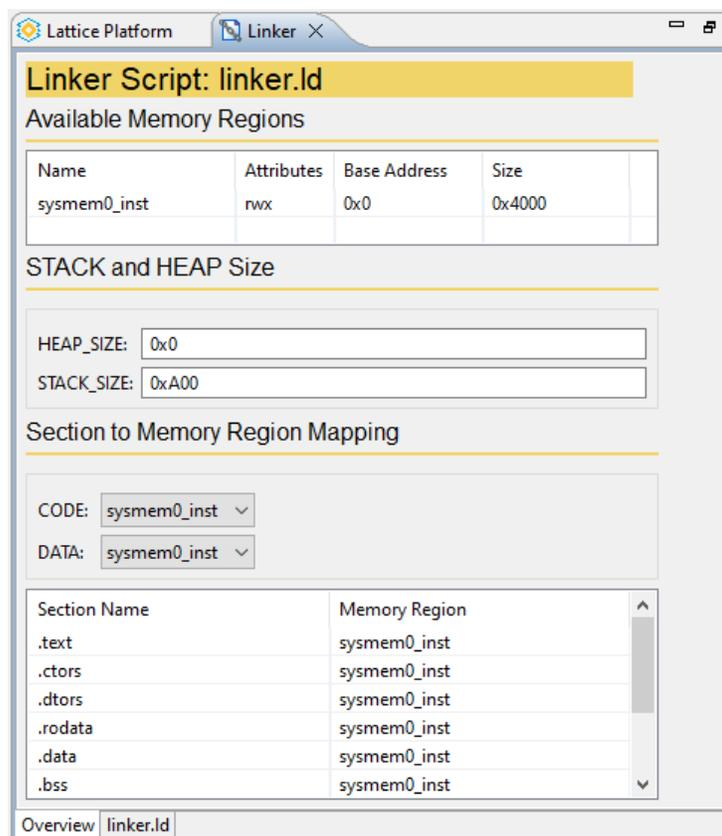

Figure 3.25. Linker Editor
- Linker Editor: An overview of the memory regions of linker script can be displayed. You can modify key linker parameters via the graphical interface (Figure 3.25).